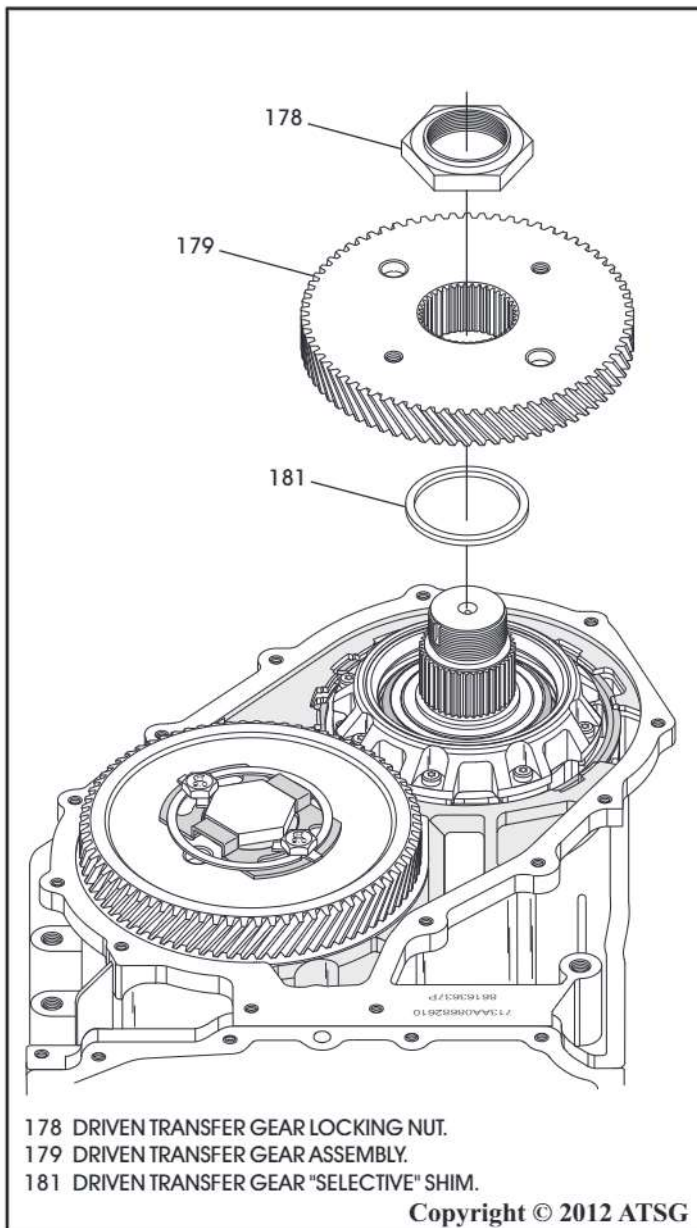

Figure 237
16. Install the pre-selected (Page 86) shim onto the underdrive center shaft, as shown in Figure 237.
17. Install the driven transfer gear and nut, as shown in Figure 237.